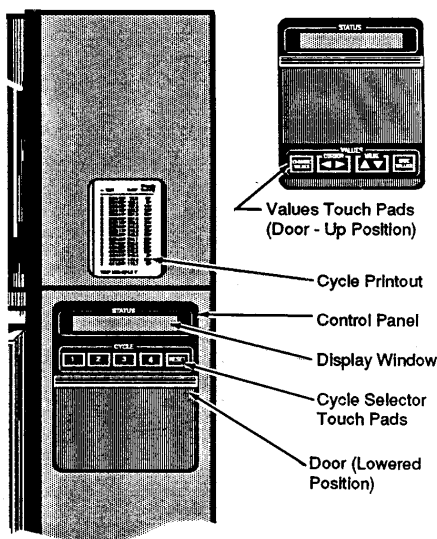

Figure 4-6. Turn Power On
4.6 Vacuum Leak Test Cycle (See Figure 4-6)